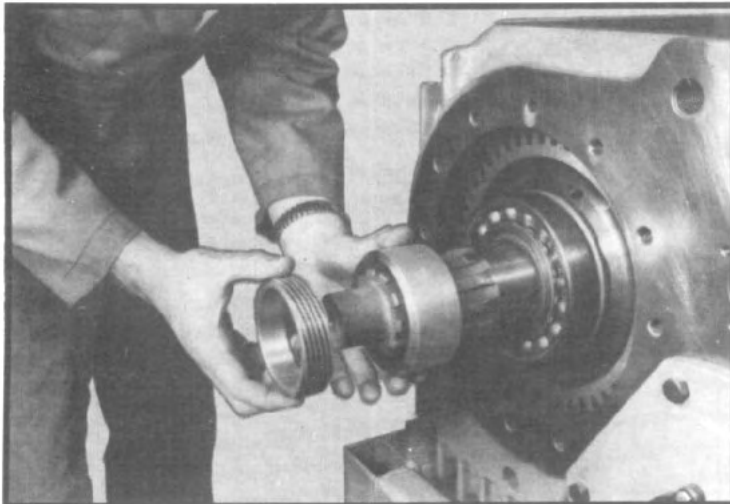

Fig. 33
- 1.8 Remove speedometer drive gear and spacer from shaft. (See fig. 33.)